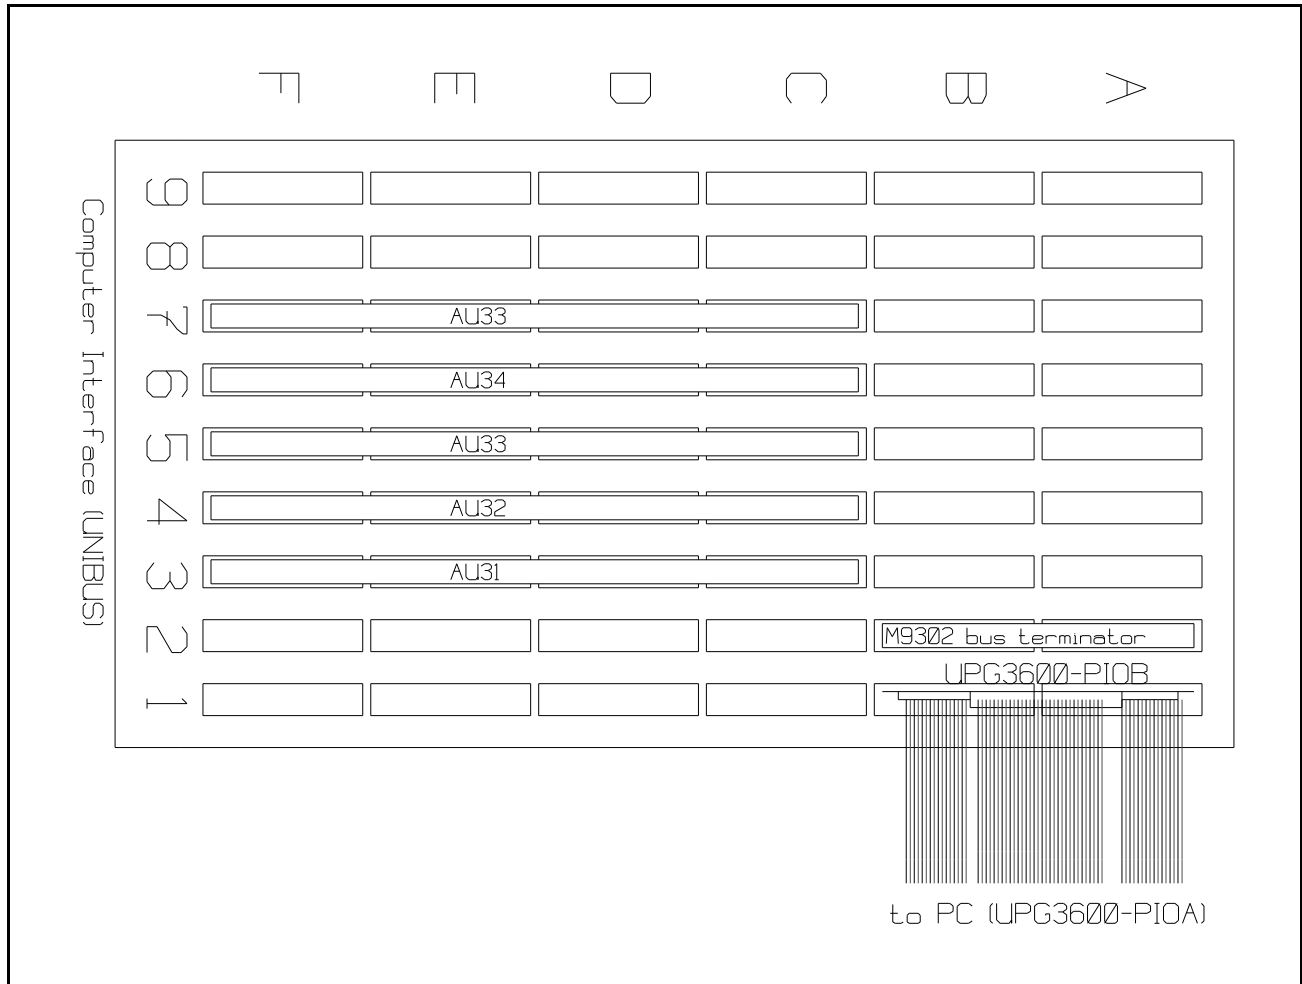

Figure B.4 : Typical Pattern Generator Computer Interface Connection
In order to make the connection between the PC and the pattern generator, refer to Figure B.4 and perform the following steps :
- | Locate the large, usually white, ribbon cable that extends the UNIBUS from the PDP-11 controller to the expansion chassis inside the Computer Interface (CI) (typically designated as 9280). Note the position of this cable in the CI chassis, then remove it and replace it with the UPG3600-PIOB card. Note also that the UPG3600-PIOB edge connector is keyed and should be inserted so that its component side is facing the same direction as the component sides of all other boards in the chassis (see Figure B.4).